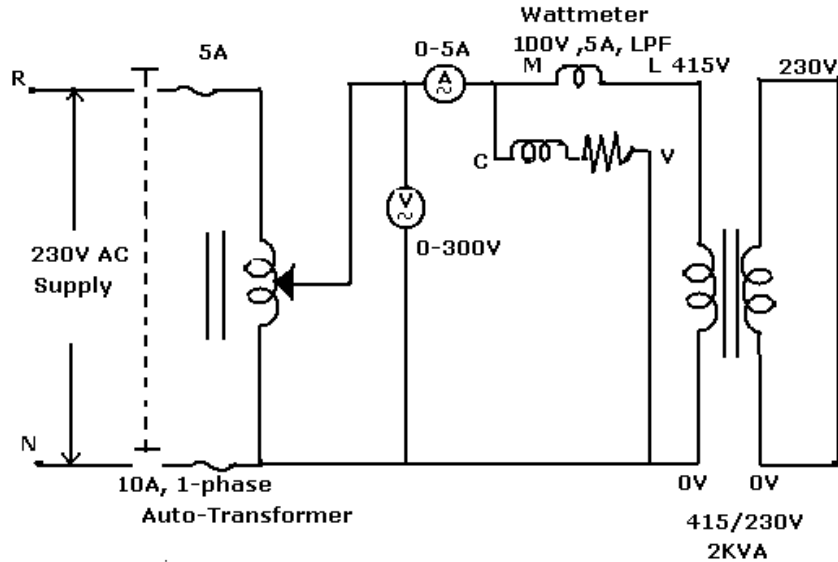

Fig.1.2: Short Circuit Test
- \* Connect the circuit diagram as shown in the figure 1.2